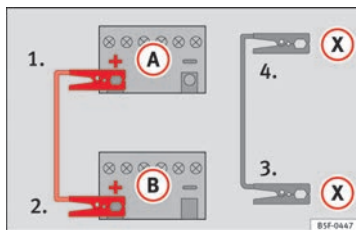

Fig. 190 Diagram of connections for vehicles with Start-Stop system.
- **For vehicles with Start-Stop system:** connect one end of the *black* jump lead (X) to a suitable ground terminal, a solid piece of metal in the engine block, or to the engine block ⇒ Fig. 190.
5. Connect the other end of the *black* jump lead (X) to a solid metal component bolted to the engine block or to the engine block itself of the vehicle with the flat battery. However, connect it to a point as far as possible from the battery (A).